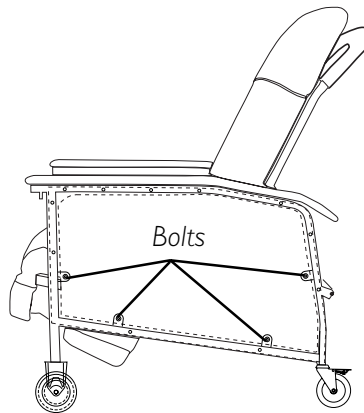

FIGURE 2 - INSTALLING THE SCISSOR MECHANISM GUARD
INSTALLING SCISSOR MECHANISM GUARD (FIGURES 2 AND 3)
3. Perform one (1) of the following:
- A. **FOR MODEL 6905A MANUFACTURED BEFORE 04/01/2002** - remove the seven (7) rivets securing the side panel to the recliner frame. Refer to DETAIL "A" in FIGURE 2.
- B. **FOR MODEL 6905A MANUFACTURED AFTER 04/01/2002** - remove the eleven (11) bolts securing the side panel to the recliner frame. Refer to DETAIL "B" in FIGURE 2.
- C. **FOR MODELS 6907A AND 6908A** - remove four (4) bolts securing the side panel to the wheelchair frame. Refer to DETAIL "C" in FIGURE 2.
8. Perform one (1) of the following:
- B. **FOR MODEL 6905A BUILT AFTER 04/01/2002** - Secure the side cover to the recliner frame with the eleven (11) bolts. Refer to DETAIL "B" in FIGURE 2.
- C. **FOR MODELS 6907A, 6908A** - Secure the side cover to the recliner frame with the four (4) bolts. Refer to DETAIL "C" in FIGURE 2.